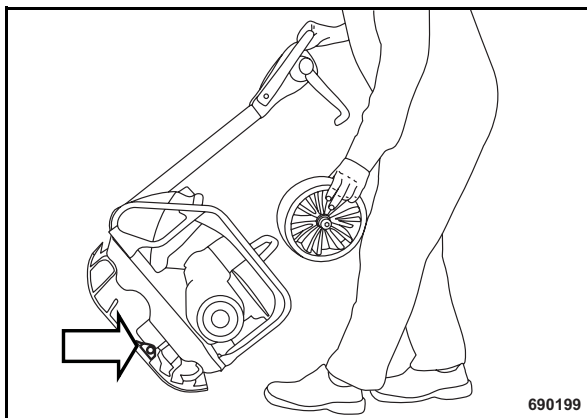

Fig. 32
- Insert the transport wheel into the bracket (Fig. 32) on the base plate.